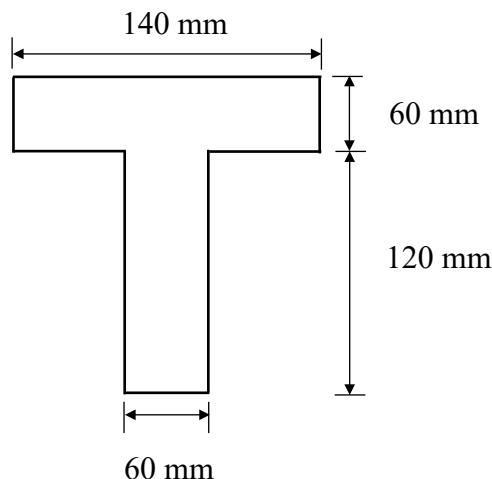

Figure A2(a) / Rajah A2(a)
- CLO1 (a) Figure A2(a) shows a T-section beam.
From Figure A2(a);